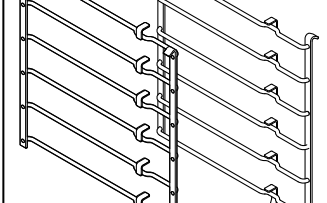

Fig.2-20
- 4 flat cooking shelves (**Fig.2-20**)